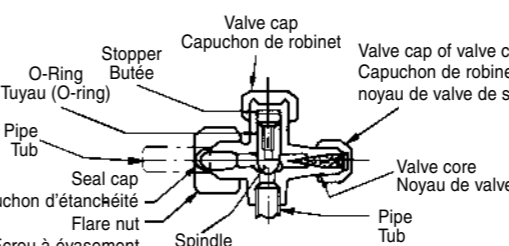

Fig. 4-3
- Screw in manually while adjusting the center. After that, use a torque wrench to tighten the connection. (Refer to Fig. 4-3 and Table 4-a.)